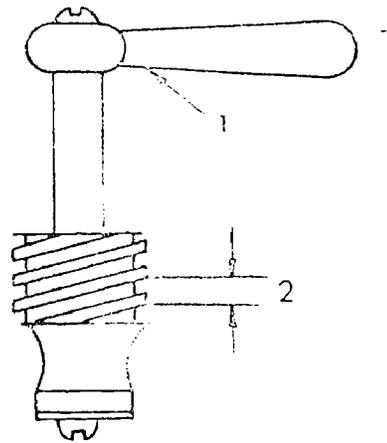

Fig. 2
7. What type of faucet stem is represented in Diagram 33, Figure 2?
20. In the illustration of a strainer with a plug (Diagram 37, Figure 2), which number would correspond to the coupling nut?